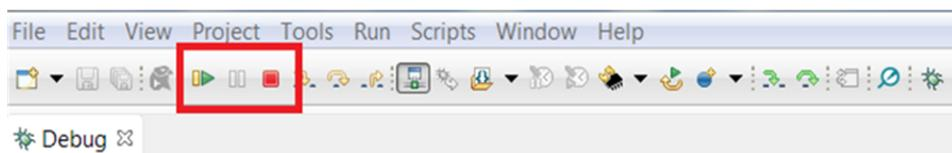

Figure 26. Run and Pause Debug Session
Step 8. When the CCS software is connected to the device, run the program from CCS to execute the program in hardware by clicking the green play button (see Figure 26). Click the red stop button (see Figure 26) to disconnect from the device debugger.